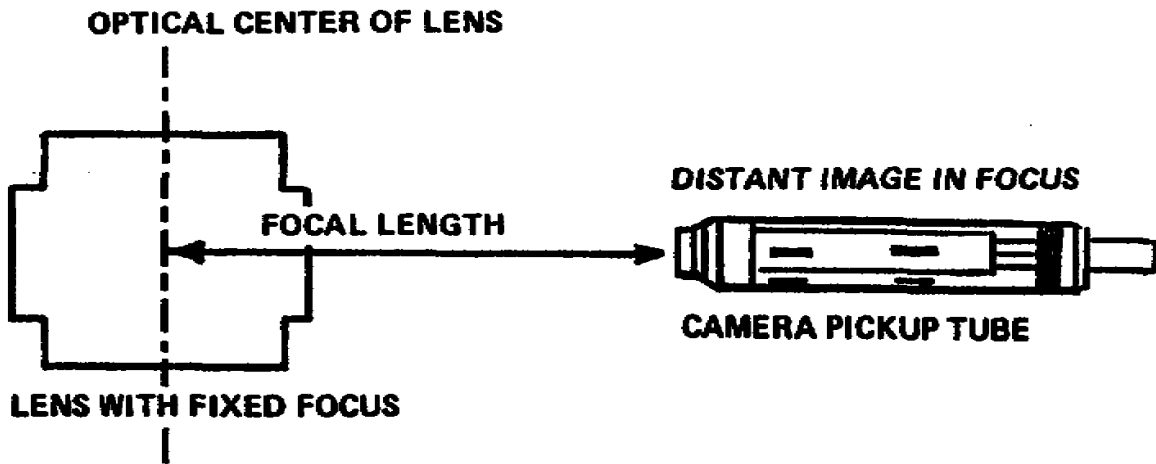

Figure 2-1. Focal length
- (1) Wide angle, or short focal length lenses.
- (2) Normal, or medium focal length lenses.
- (3) Narrow angle, or long focal length lenses, often called telephoto lenses.
- (4) Zoom, or variable focal length lenses.
b. The wide angle or narrow angle refers to the field of view, the relative vista of the lens. The "short" and "long" refer to the actual focal length (fig 2-1) the distance from the optical center of the lens (often the midpoint between the front and back lens elements) to the point where the distant image as seen by the lens is in focus.
(1) With a wide angle lens, or short lens, you can see more; you have a wider vista. Objects very close to the lens appear quite magnified, but the ones just a little farther back look rather small. A short lens creates an effect similar to looking through binoculars the wrong way.
(2) With a narrow angle lens, or long lens, you have a narrower vista, but what you see, even the distant objects, are greatly magnified. A long lens is similar to binoculars used correctly.
(3) The normal lens gives you the view of the normal human vision.